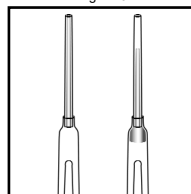

Figure 4
6. Pull the VACUette into a vertical position. A small portion of the collected sample should fall into the sleeve of the VACUette tip (fig. 4).